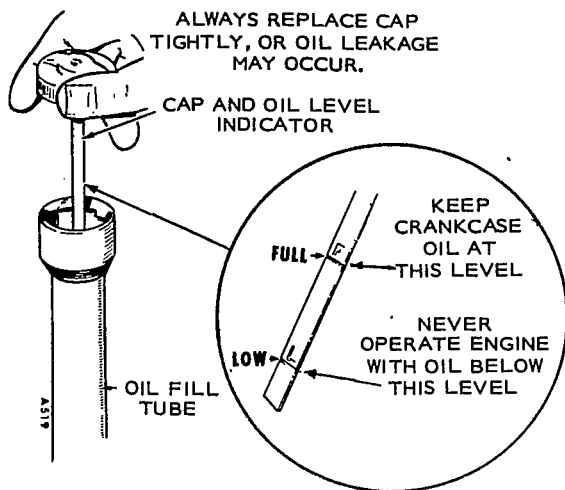

FIGURE 5. OIL LEVEL
C. **OIL LEVEL.** Keep level to F (full) mark on indicator, Figure 5. When adding, use same brand and type as in crankcase.